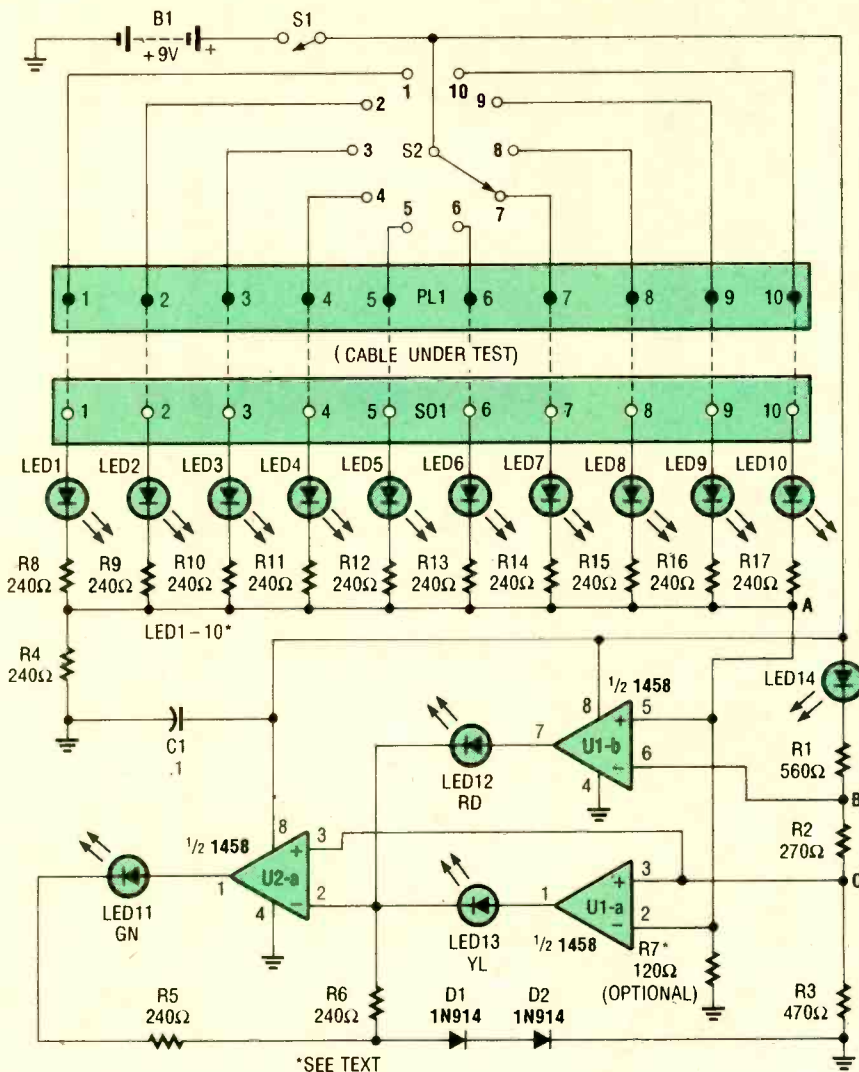

Fig. 1. At the heart of the Cable Tester, are two dual op-amps, configured as comparators.
**A Look at the Circuit.** Refer to Fig. 1. At the heart of the circuit are two dual op-amps, U1 and U2 (only half of U2 is used in the circuit). One op-amp, U1, is used to form a window comparator. The window comparator is used to
Fig. 2. The voltage divider in A provides the reference voltages that are used to determine the condition of the conductors in the cable under test. If the selected conductor is okay, the voltage at point A (in Fig. 1) will be as shown in B; if it is open, the point A voltage will be zero, as indicated in C; and if two conductors are shorted, point A will have a much larger voltage than if the cable is okay, as shown in D.